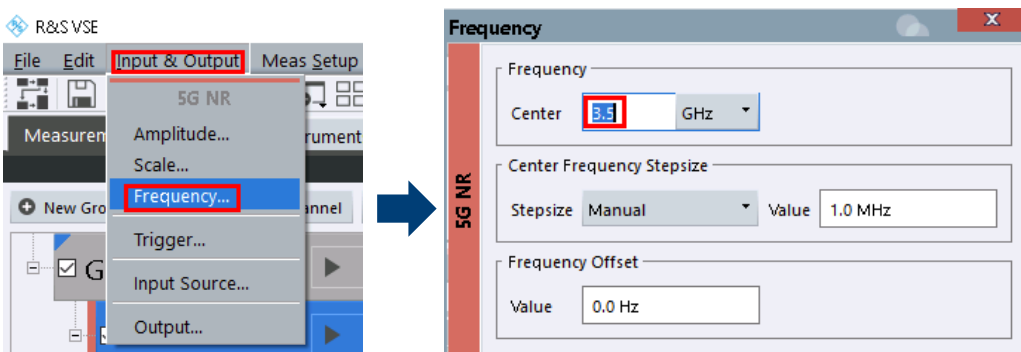

Fig. 3-15: Enter carrier center frequency
- Set the carrier center frequency. For example, enter 3.5 GHz as center frequency for FR1. See Fig. 3-15